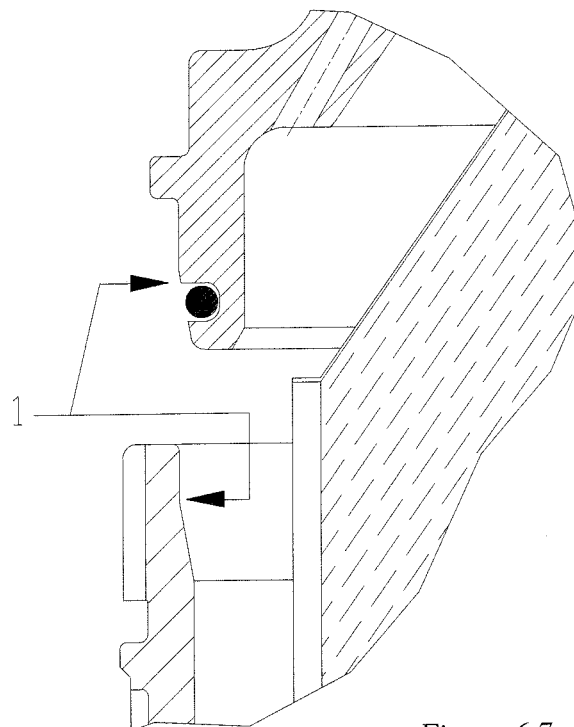

Figure 6.7
- 8) Carefully clean the conical coupling surfaces of bowl body and bowl hood (1 - fig 6.7); then smear on them a thin film of antiscuff grease (alimentary type).